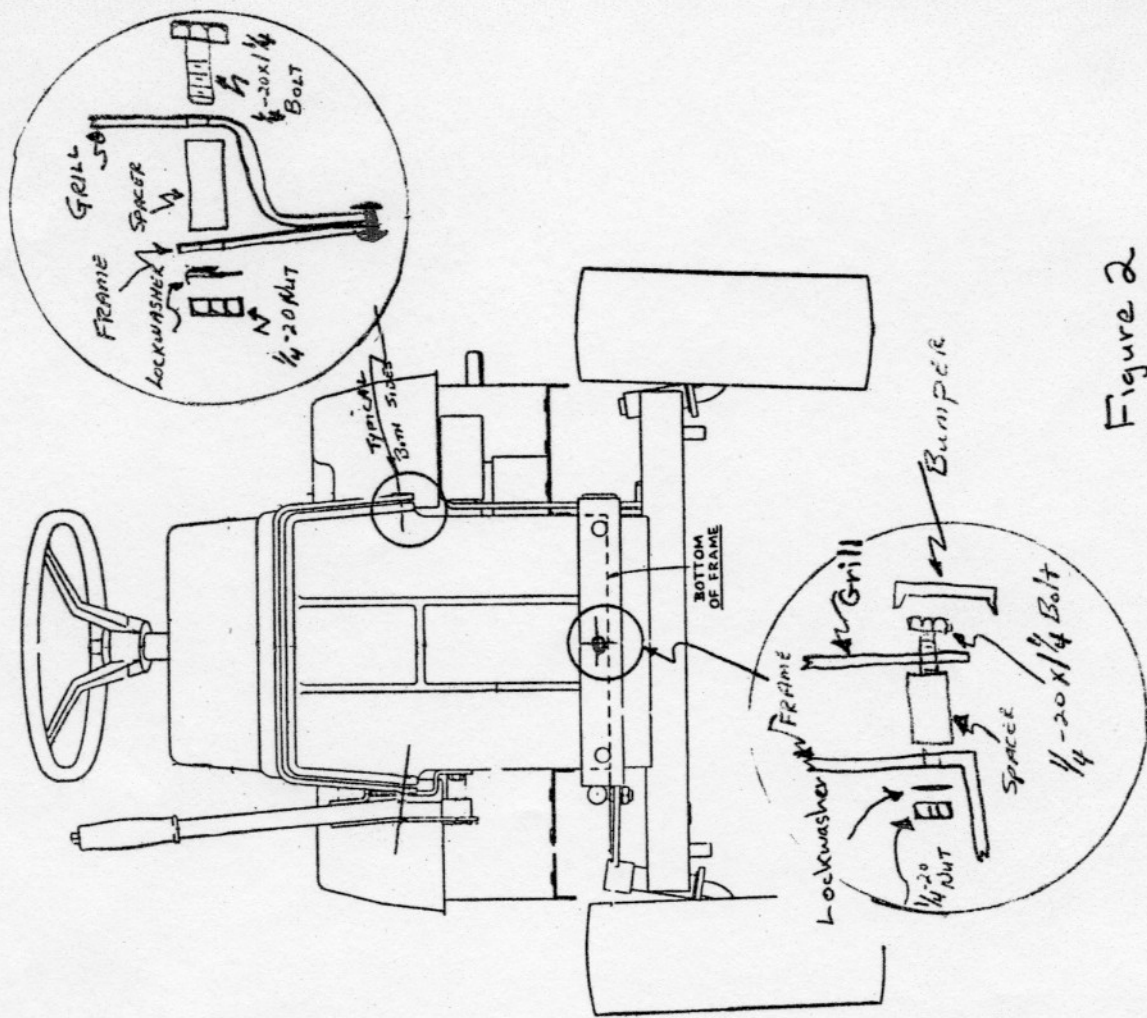

Figure 2
2. Center punch the sides of the grill at a point as shown in Figure 2, so that subsequent drilling will allow the placement of a spacer between the grill and battery compartment as shown in Figure 2. Make sure the punch mark is located so the drilled hole will not tear through the edge of the grill or compartment wall.
3. Drill a 1/8 inch pilot hole at each punch mark and then drill a 0.281 (9/32) inch hole at each pilot hole making sure the drill bit passes through the battery compartment perpendicularly. See Figure 2 insert.
5. Center punch a point in the center lower edge of the grill so subsequent drilling will enter the front battery compartment as shown in the insert of Figure 2.